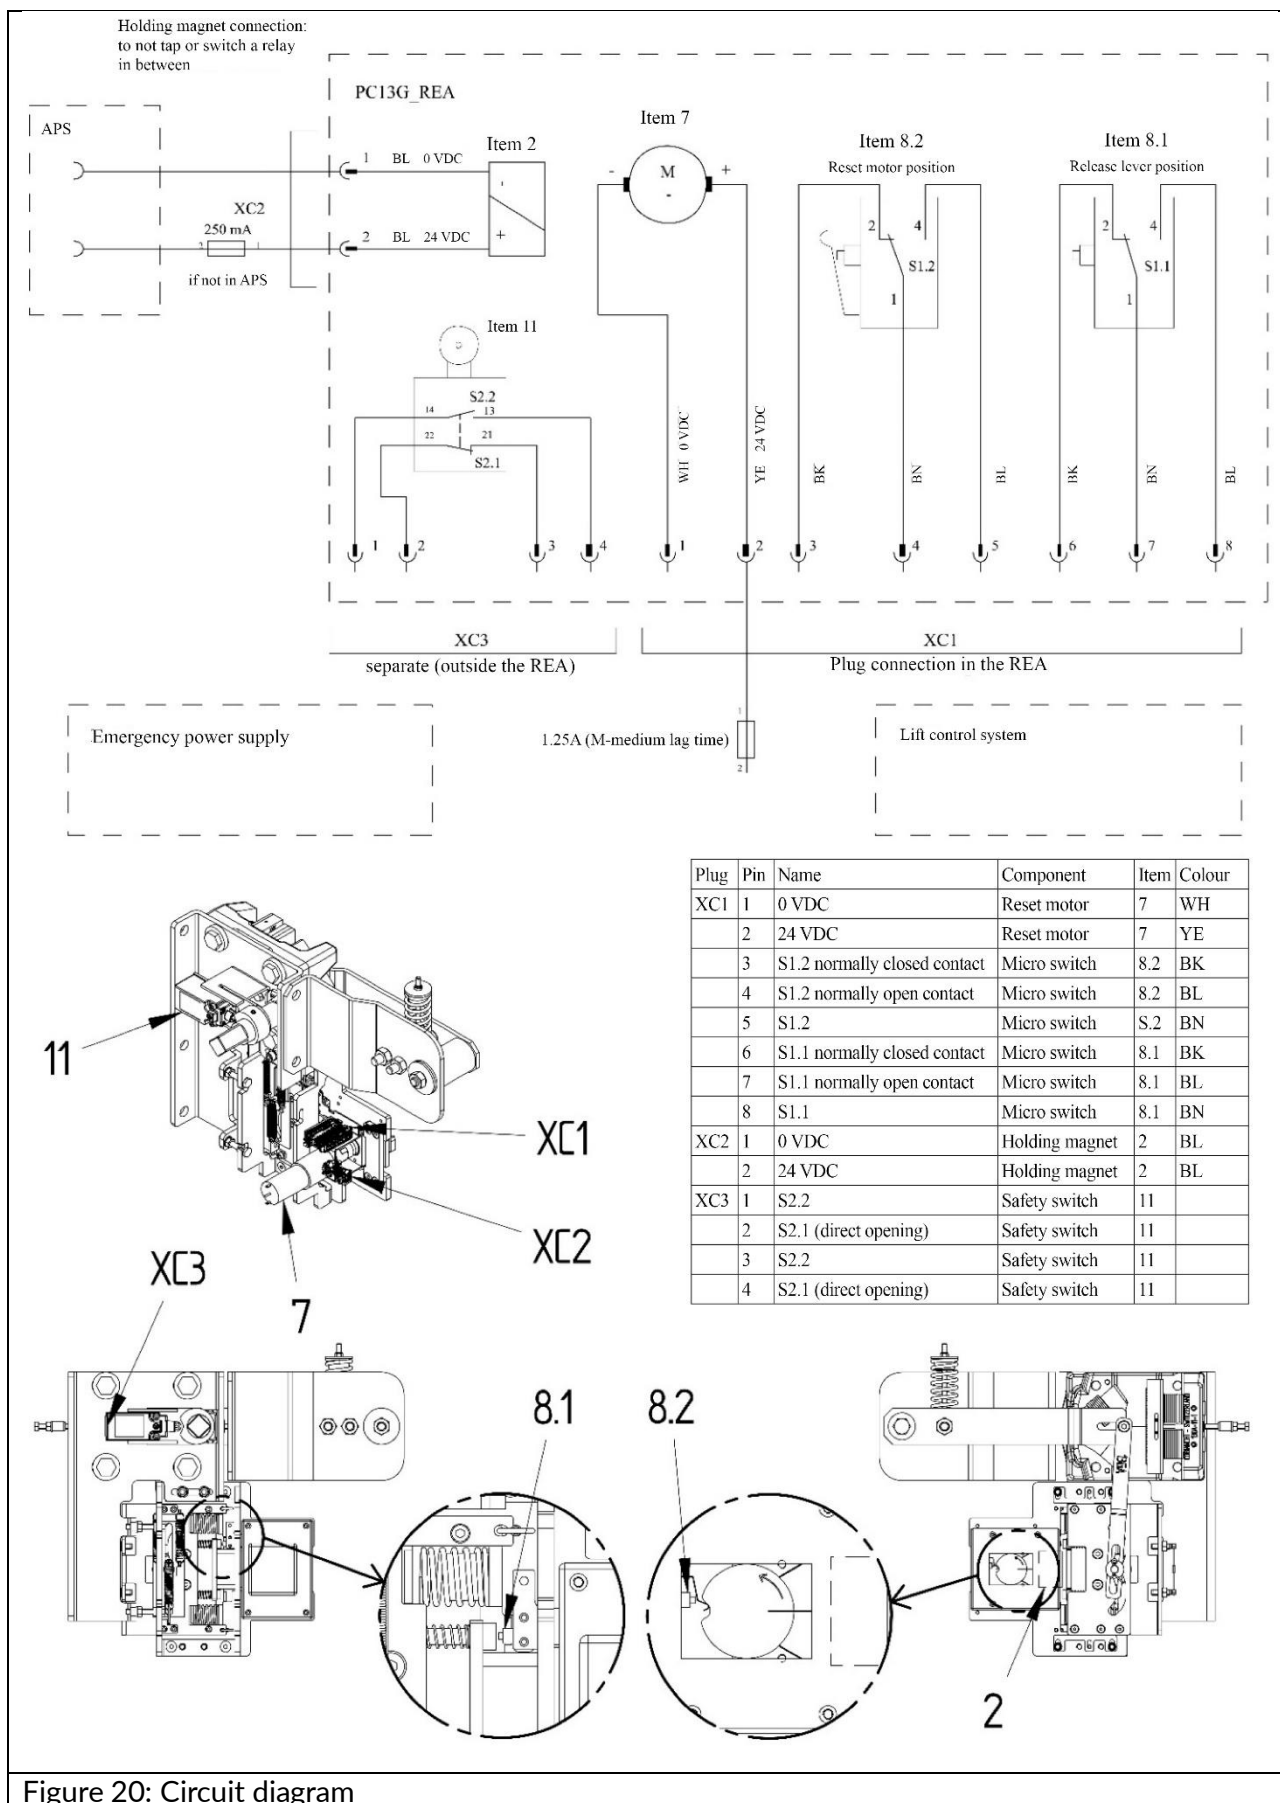

Figure 20: Circuit diagram
A normal run may only be released once the two switch positions on the micro switch (item 8.1 / 8.2) detect a completely withdrawn trigger roll (item 1) and the monitoring contact (figure 20, S2.2) on the non-actuated safety switch (item 11) on the safety gear indicates a non-engaged safety gear. When the trigger roll (item 1) is withdrawn completely, this ensures that it cannot come into contact with the guide rail (item 5) (figure 10).
The circuit diagram in figure 20 shows how to connect one individual release unit (solution with a connection bar). If installing without connection bars with at least two release units, we recommend using a control system to ensure that an error (inadvertent release, cable breakage, etc.) on one release unit causes all others to also be actuated immediately and therefore prevent a one-sided load on the catch frame.